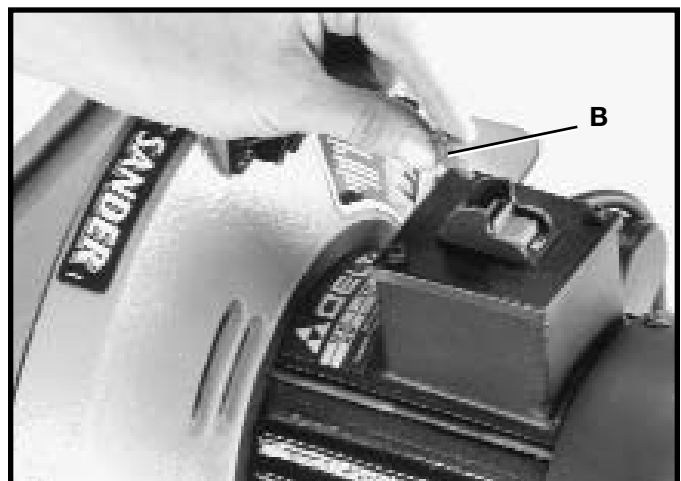

Fig. 9
When the tool is not in use, the switch should be locked in the "OFF" position. This can be done by grasping the switch toggle (B) Fig. 9, and pulling it out of the switch, as shown. With the switch toggle (B) removed, the switch will not operate. However, should the switch toggle be removed while the machine is running, the switch can be turned "OFF" once, but cannot be restarted without inserting the switch toggle (B).